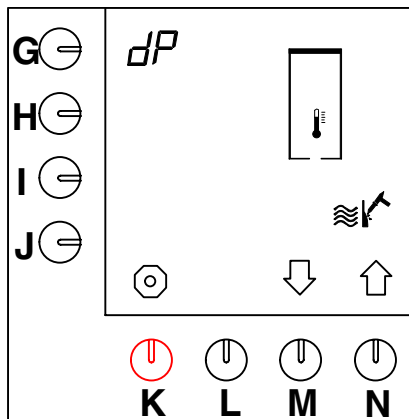

Fig. 21 Starting the descaling programme hot water system
- Hold down programming key (G.) until fig. 21 re-appears on the display.
- The descaling programme appears on the display (fig.21).